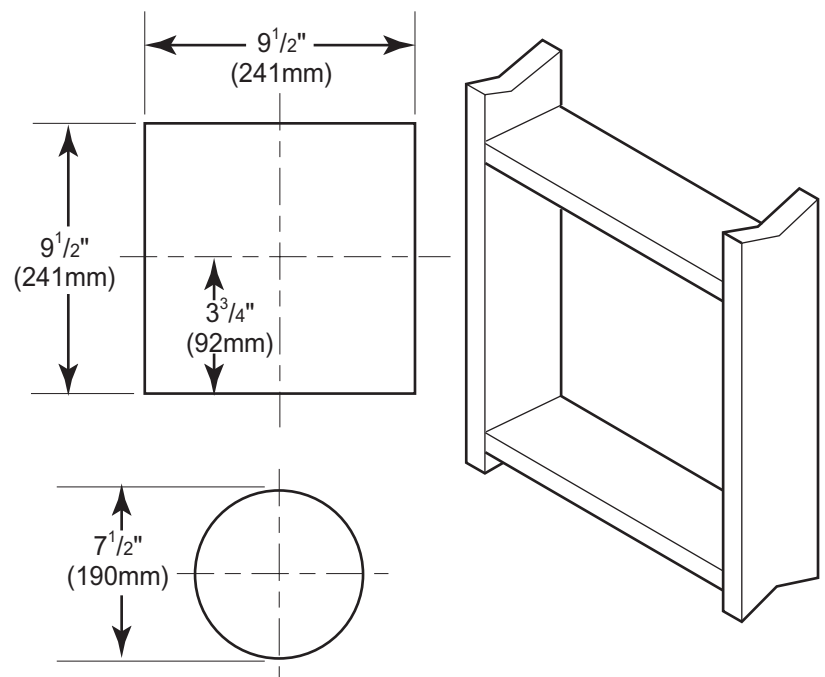

Figure 17 - Exterior Wall Framing Dimensions
Combustible Exterior Walls: Cut a 9½"H x 9½"W square hole through the exterior wall frame. See *Figure 17*.
3. The center of the hole should line up with the center line of the horizontal rigid vent pipe end. Pipe shall always run level or uphill on horizontal runs. Never run pipe down hill. See *Figure 17*.